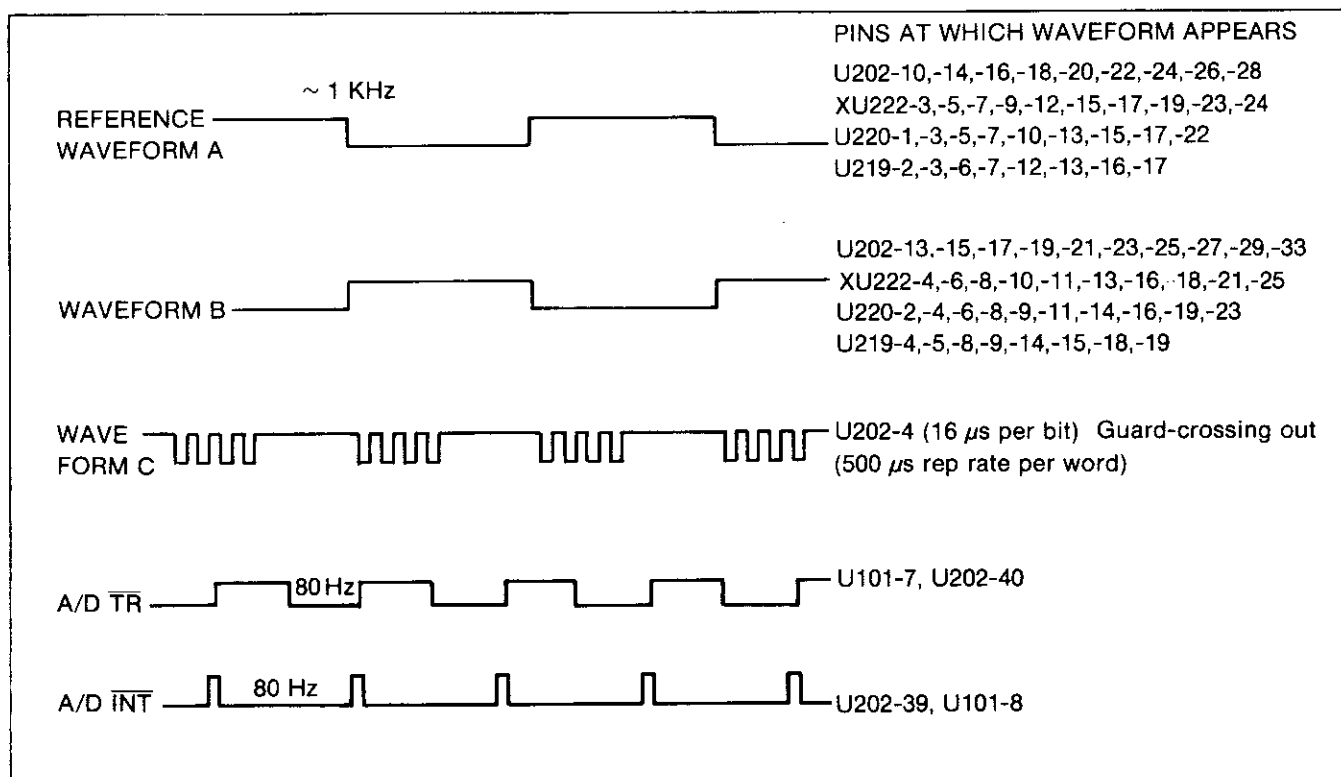

Figure 6-11. Waveforms for In-Guard Troubleshooting Mode
5. Guard-crossing test pattern (U202-4): Waveform C (see Figure 6-11).
7. Output test patterns (see Waveforms A and B in Figure 6-11): 1 kHz square wave on indicated pins, 50% duty cycle, low 0V, high 3.8V nominal. (The waveforms are interrupted every 1.5 sec for 0.2 sec due to interrupts from the watchdog timer.) To observe these patterns, remove U220, attach a logic clip to address latch U219 and sync on U219-3 for Reference Waveform A on channel 1 of a dual trace scope. Compare channel 1 with waveforms at U202-10,-14,-16,-18,-20,-22,-24,-26,-28. These should all be the same as reference Waveform A (including phase). Then compare channel 1 with waveforms at U202-13,-15,-17,-19,-21,-23,-25,-27,-29,-33. These should be the same as Waveform B, which is simply the opposite phase of Waveform A.
Verify that U219-2,-6,-7,-12,-13,-16,-17 are the same as Waveform A (see Figure 6-11) on U219-3. Verify that U219-4,-5,-8,-9,-14,-15,-18,-19 are the same as Waveform B. The waveforms should be interrupted every 1.5 sec for 0.2 sec due to interrupts from the watchdog timer.
Sync on U219-3. Verify that XU222-3,-5,-9,-12,-15,-17,-19,-23,-24 are the same as Waveform A (see Figure 6-11) on U219-3. Verify that XU222-4,-6,-8,-10,-11,-13,-16,-18,-21,-25 are the same as Waveform B. The waveforms should be interrupted every 1.5 sec for 0.2 sec due to interrupts from the watchdog timer. (Note: XU222 pins refer to a 28-pin socket.)